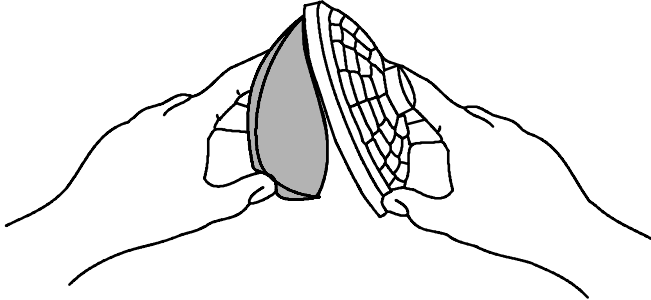

FIG. 10
- a. Pull the top piece of the dome filter off and remove the foam media (Figure 10). Shake it out, rinse it and let it air dry thoroughly.